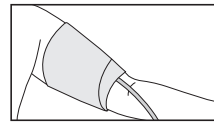

Fig.10
4. If the hand is cone-shaped, it is recommended to put the cuff spirally, as shown in the figure (Fig. 10).